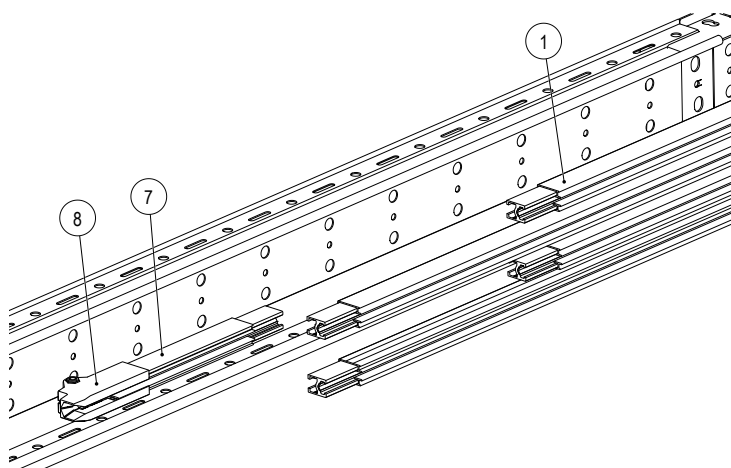
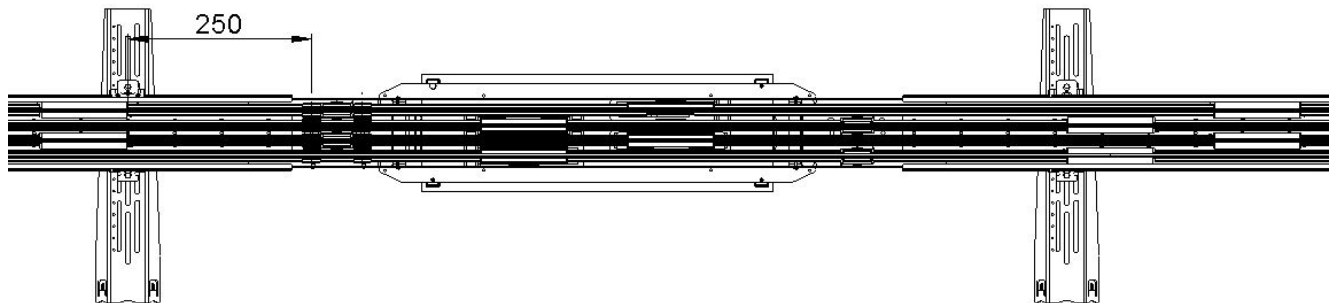
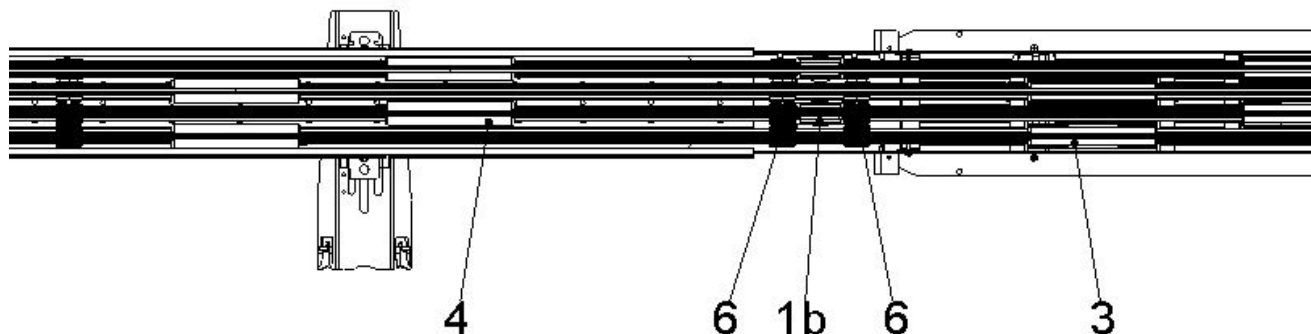

Fig. 28: Install short pieces (7) on conductor rail pieces
Fig. 36: Distance between connector and hanger clamp
Fig. 38: System overview on track
This means that the short pieces (250 mm) (7) must be connected to the conductor rails (1) before installation in the terminal box (see Fig. 28).
7. Connect the conductor rails on the track to the end of the system (see BAL0812-0001). Note that the distance between the hanger clamps and the connectors must be at least 250 mm (see Fig. 36 to Fig. 38). If the conductor rail with the line feed and the anchor point is the last conductor rail of the system, the short pieces (7) and end caps (8) must be installed beforehand (see Fig. 28).
9. Install the end caps on the conductor rails at the end of the system (see BAL0812-0001) before hanging the conductor rails. If the conductor rail with the line feed and the anchor point is the last conductor rail of the system, the short pieces (7) and end caps (8) must be installed beforehand (see Fig. 28).